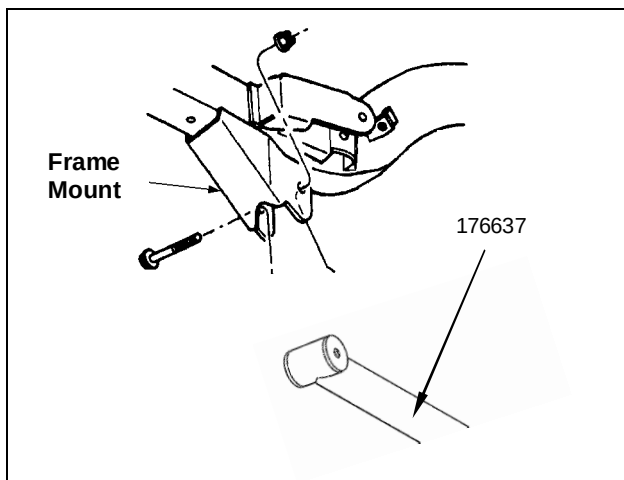

Figure 14
- 3) ☐ Install new Rancho suspension link 176637 to the frame and axle brackets. See figure 14. Use original hardware but do not tighten. Tightening the bolts at this point could create ride height issues.